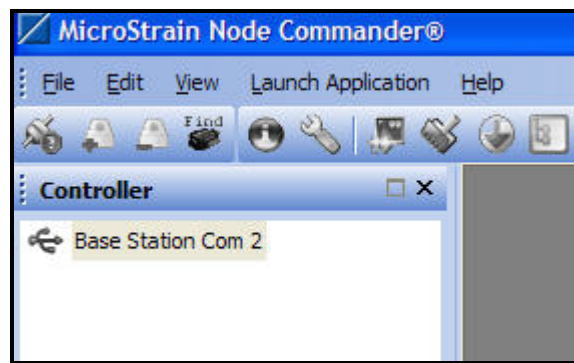

Figure 6. Node Commander Controller frame
- The WSDA[®] will now be found and reported in the Controller frame as Base Station Com X. Figure 6 shows an example Com 2.